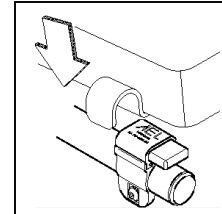
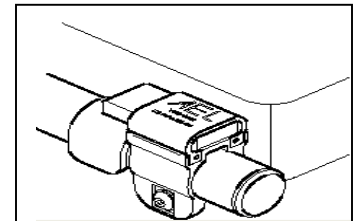

Figure 8
Figure 10
The VERSALock® Hardware (I) can be installed and used as securing hardware and/or positioning guides for the Back. The top portion of the VERSALock hardware slides over the TensionHooks with a spring-loaded snap-action to hold the Back in place as can be seen in Figures 8 and 9.
The VERSALock comes with a set of fasteners that allow it to accommodate a range of tube sizes including 7/8" and 1". In order to install the VERSALock, snap over bar, insert the proper fasteners and screw tight to secure in place. The secured VERSALock can be seen in Figure 10.
Once all the hardware is in place, you can reposition the Back Cushion (B) in its original position on the Back Shell (A). Align the TensionHooks (C) with the wheelchair push handles and press firmly until they snap into place. Tighten all parts to 20in-lb (2.3Nm) and click the four VERSALocks (I) into position. This action is illustrated in Figures 8 & 9. Figure 10 shows the TensionHook secured by the VERSALock.